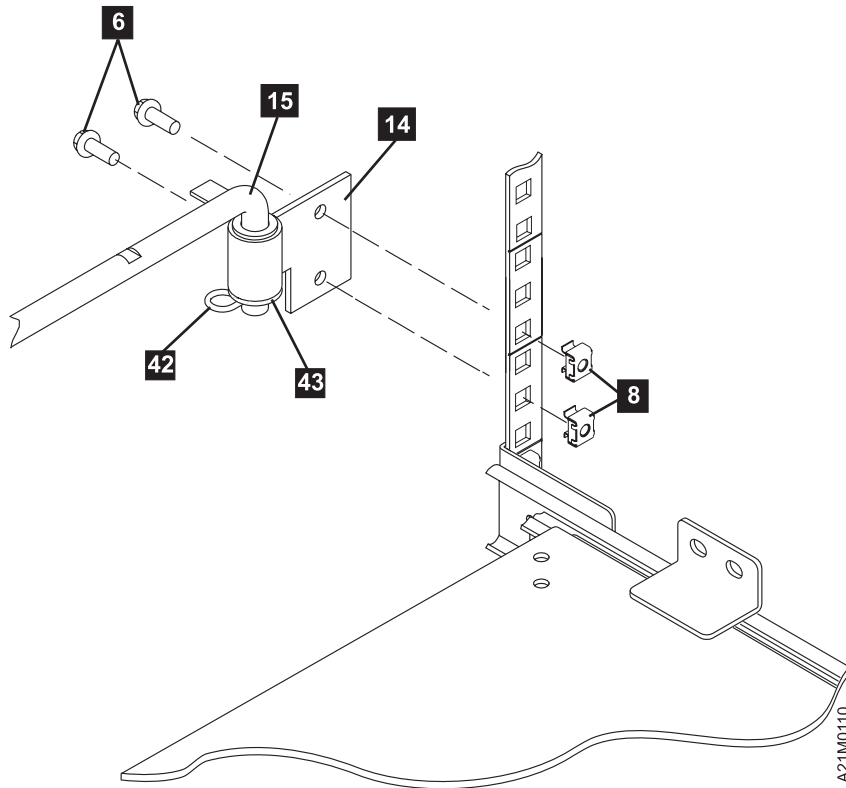

Figure 42. Attaching Cable Arm Hinge and Bracket
- ___ Step d. See Figure 42 on page 80 to install two M6 caged nuts **8** for the articulated arm hinge. Viewed from the front of the rack, install the caged nuts on the right rear EIA strip. Ensure there is one open hole above the top slide caged nut.
- ___ Step 10. See Figure 42 on page 80 to install the pivot hinge **14**. Use two socket button head screws **6** through the pivot hinge and into the two caged nuts **8**. Tighten the screws. The pivot hinge should be installed in the EIA unit just above the right rear slide mounting position.